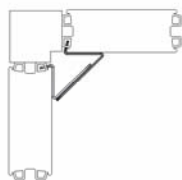
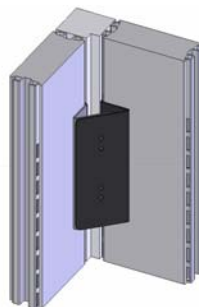

Figure 2
Figure 3
1. Insert the left adapter bracket with tapped holes, tabs facing down, into left corner of office furniture equipment mounting slots at desired height (see Figure 2 and Figure 3).
2. Insert the right adapter bracket, tabs facing up, into matching right corner of office furniture equipment mounting slots and slide down until mounting holes align (see Figure 2 and Figure 3).